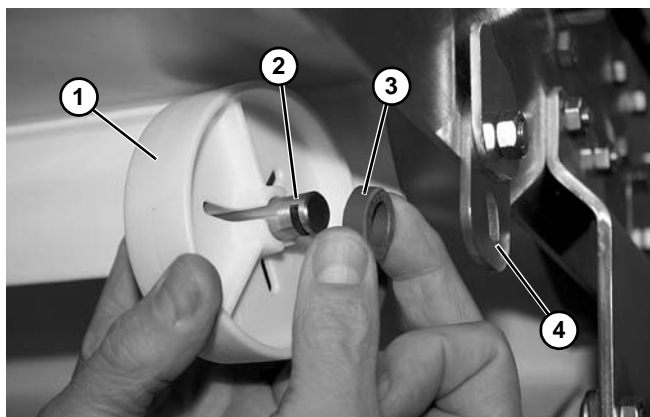

Figure 66
2. Remove puck (**Figure 66, item 1**), stub shaft (**Figure 66, item 2**), and spacer (**Figure 66, item 3**) from return bracket (**Figure 66, item 4**).